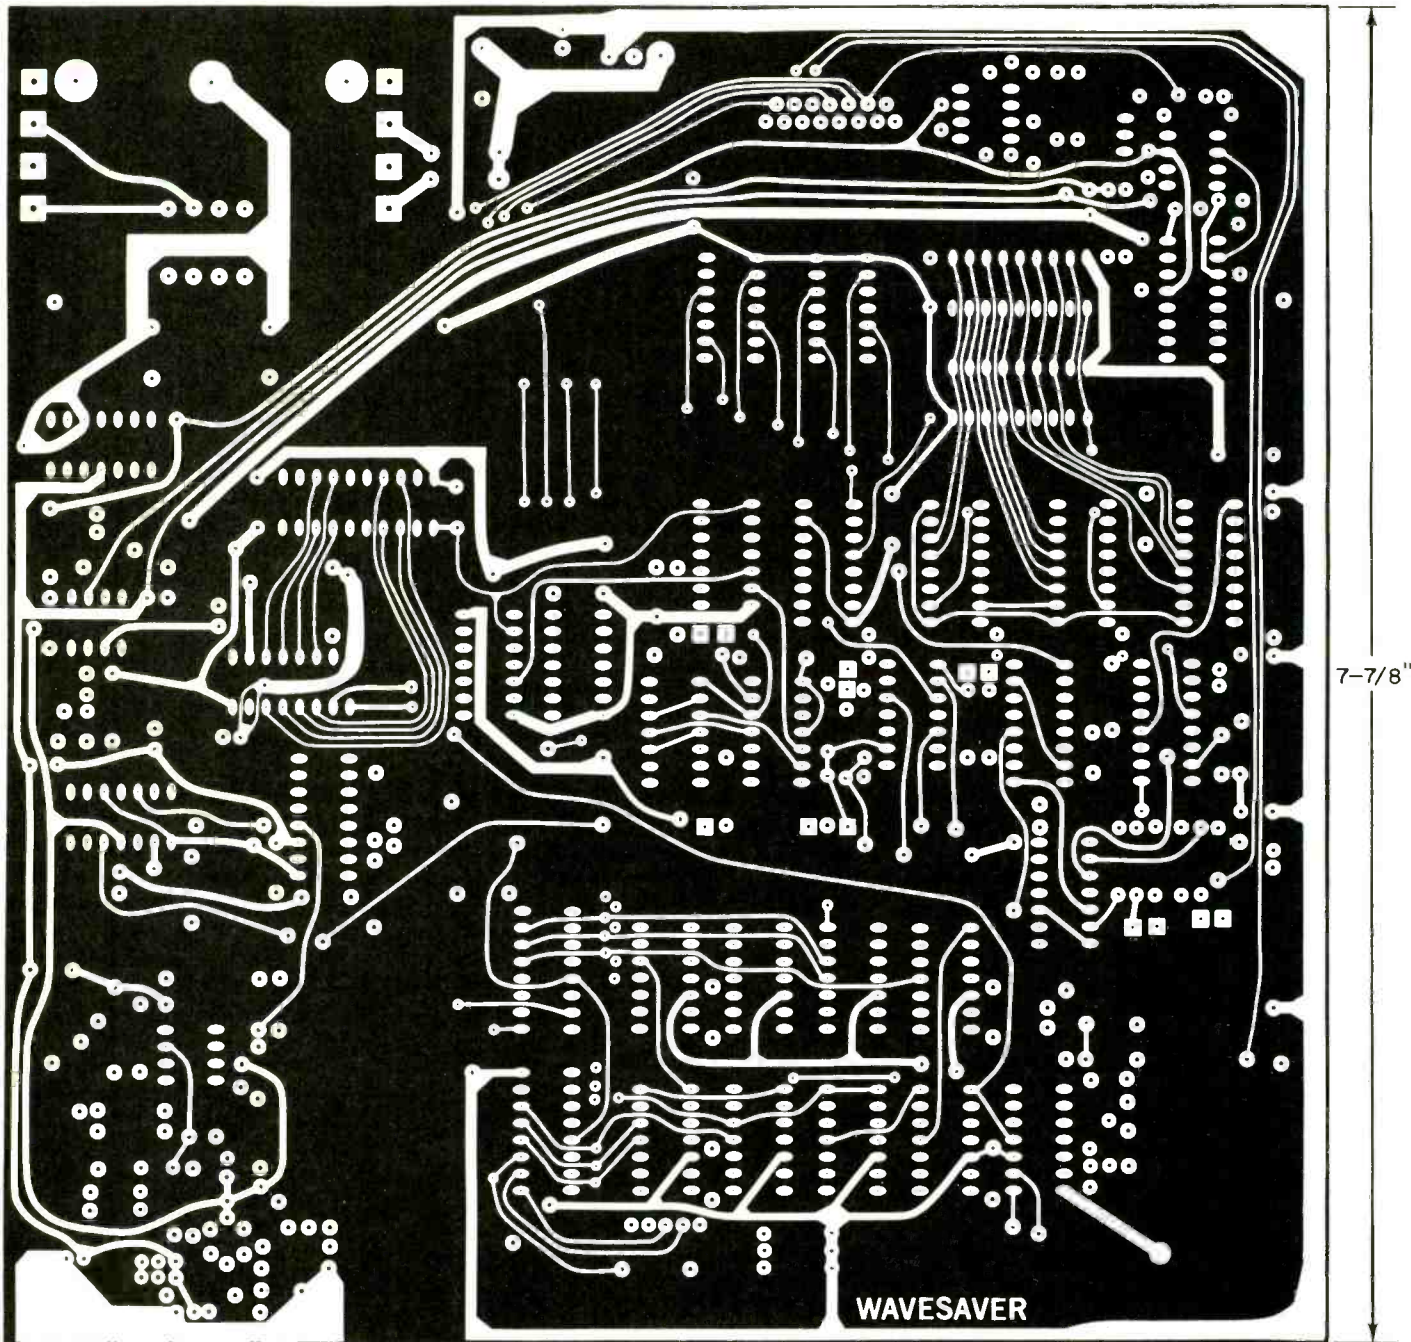
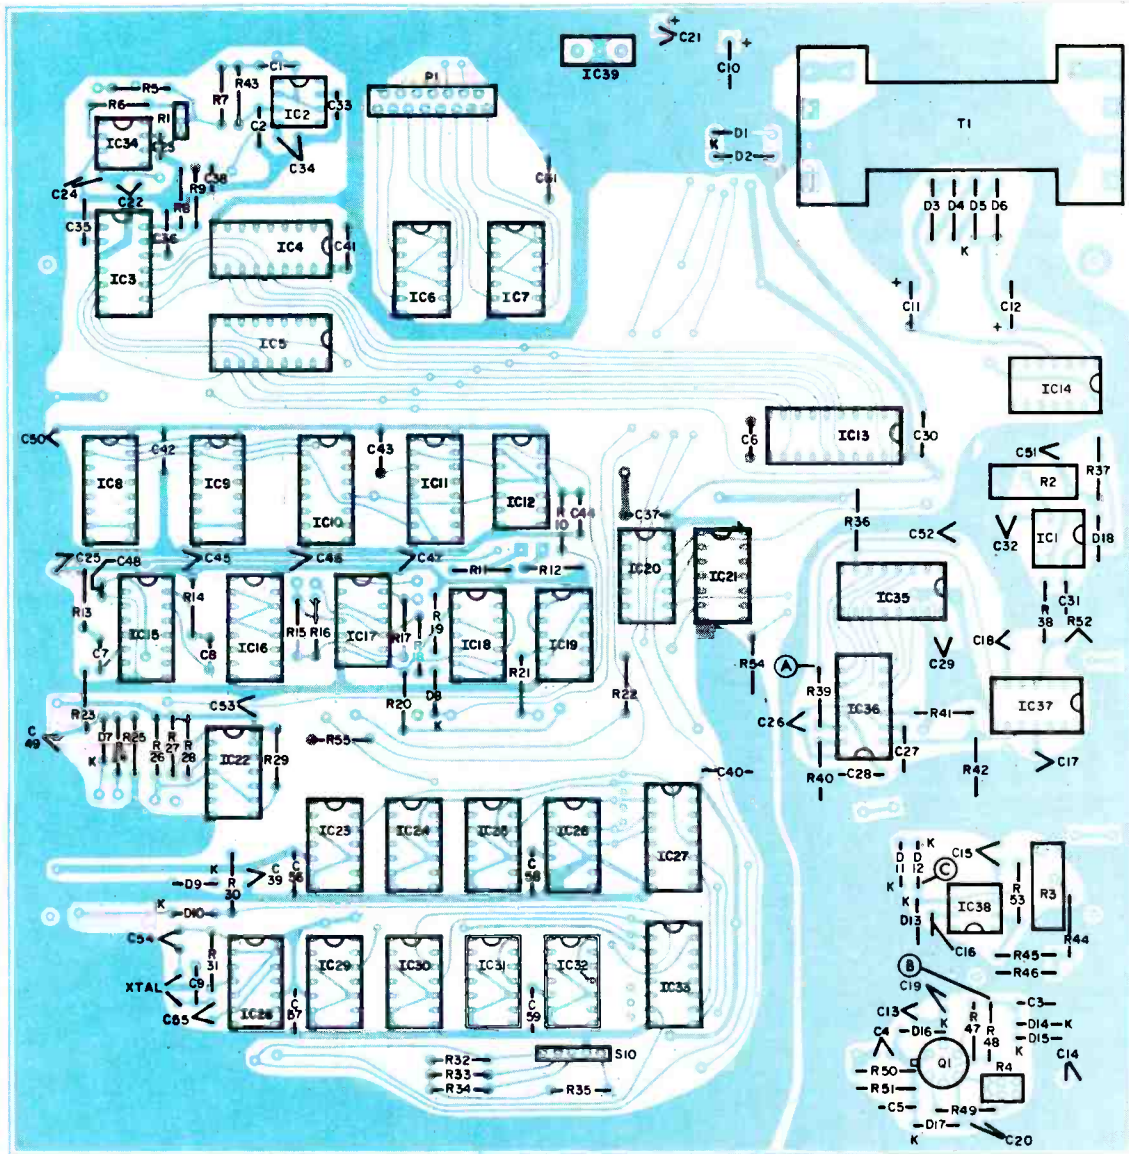
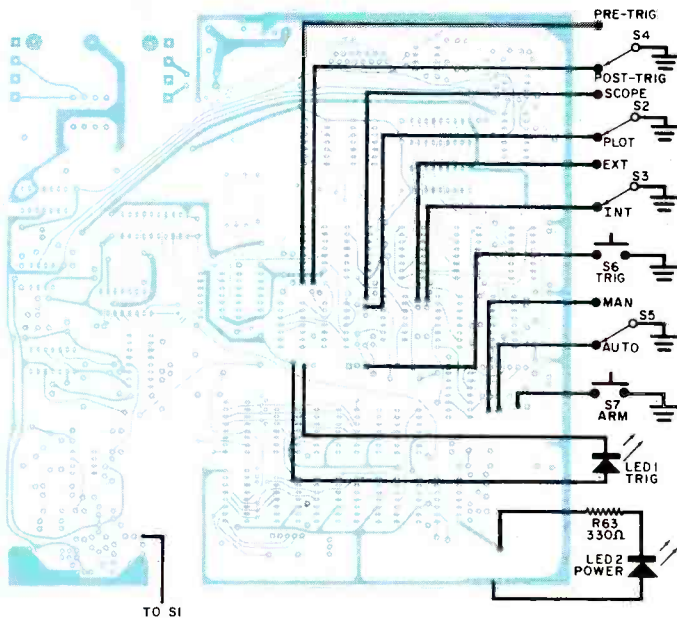

Fig. 11. Reduced pattern for foil side of the double-sided pc board. Note correct size.
Fig. 13. Component layout for the pc board.
Fig. 14. Connections to external components from the pc board.
**Construction.** It is recommended that the Wavesaver be constructed using the dual-sided pc board shown in Figs. 11 and 12. Component installation is shown in Fig. 13, and external elements are connected as shown in Fig. 14.
To set the reference level, connect the dc voltmeter between test point A (Fig. 13) and ground. Adjust R2 for 9.92 volts (given as 9.98 on the schematics to com-